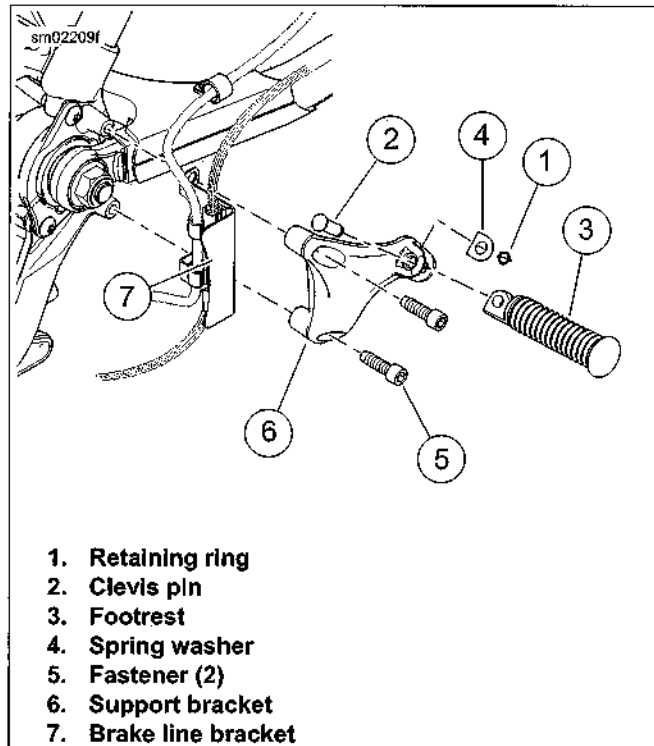

Figure 2-185. Left Passenger Footrest
1. See Figure 2-185. Remove retaining ring (1), clevis pin (2), footrest (3) and spring washer (4). Discard retaining ring.
2. **Passenger footrest models:** Remove two fasteners (5) and footrest support bracket (6).
3. **Non-passenger models:** Remove two fasteners (5).
4. Support the brake line bracket (7).